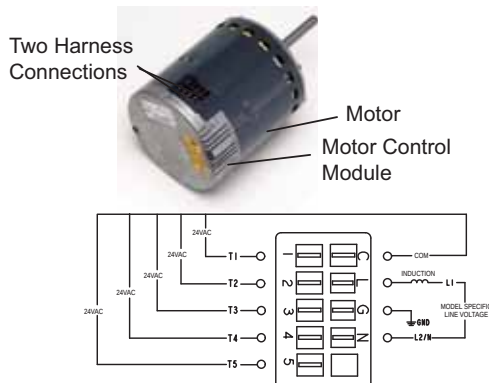

Figure 16.
- 3 - Unplug the two harnesses from the motor control module. See **FIGURE 16**.